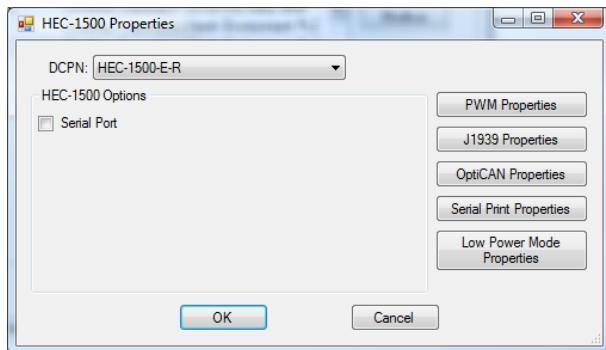

Figure 2.8 - HEC-1500 Properties Window
2. Click the **PROPERTIES** button. The HEC-1500 Properties Window will open. Refer to Figure 2.8.